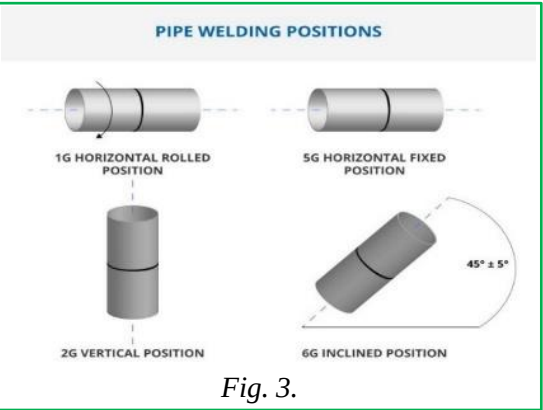

Fig. 3.
- c. Vertical welds often demand 6G welding positions (Fig. 3), which are significantly more challenging and require highly skilled welders to perform effectively.